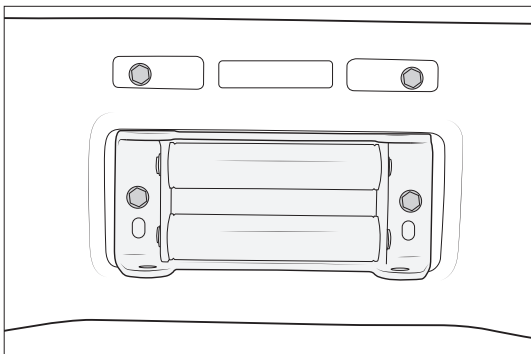

Figure 23
9. Place the winch assembly into the bumper center section. Secure through the front using the factory hardware. Note: You will need to remove the side rollers from the fairlead for access (fig. 23).